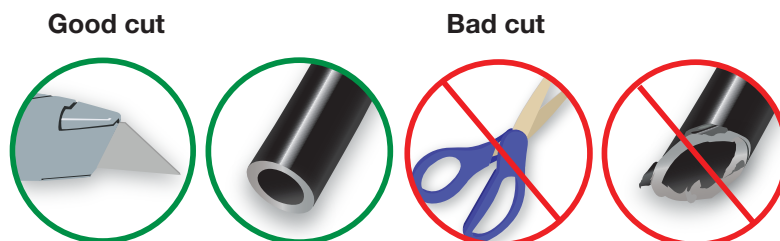

fig. E.2
1. Cut the air line in half. Make clean, square cuts with a razor blade or hose cutter (Fig. E.2). Do not use scissors or wire cutters.